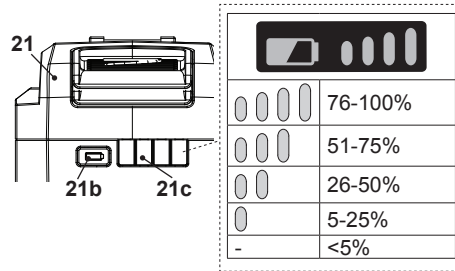

Fig. 15
The battery pack (21) is equipped with battery capacity indicators (21c) which are used to give an indication of the battery pack's remaining capacity. Press the battery capacity button (21b) to check battery capacity (Fig. 15). The LEDs will stay lit for approximately 5 seconds.